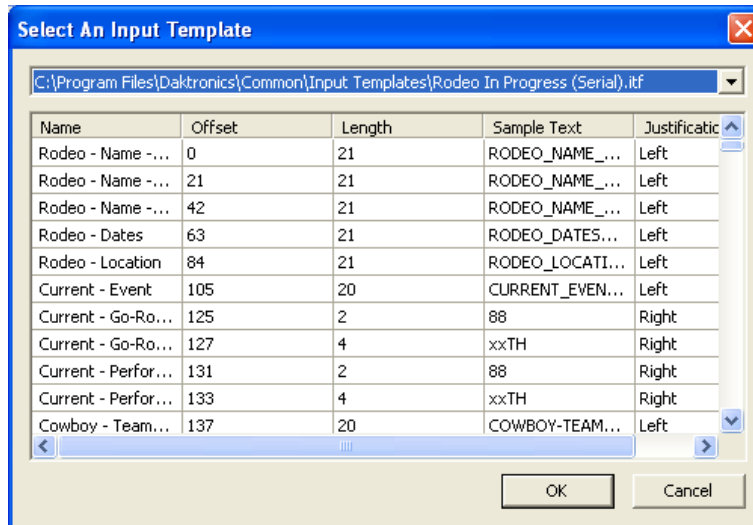

Figure 11: Select An Input Template
7. In the *Select An Input Template* window (*Figure 11*), click the drop-down list and select **Browse**.